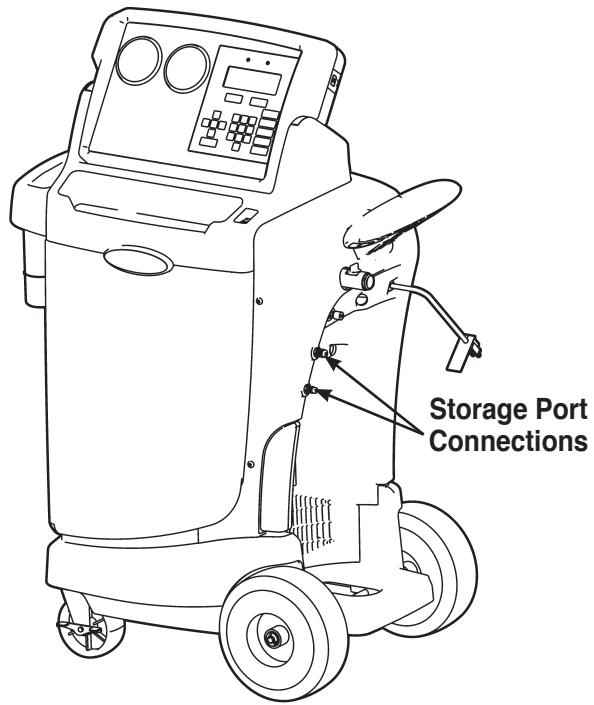

Figure 6
3. Connect the hoses to the unit's storage port connections (shown in Figure 6), and open the coupler valves.